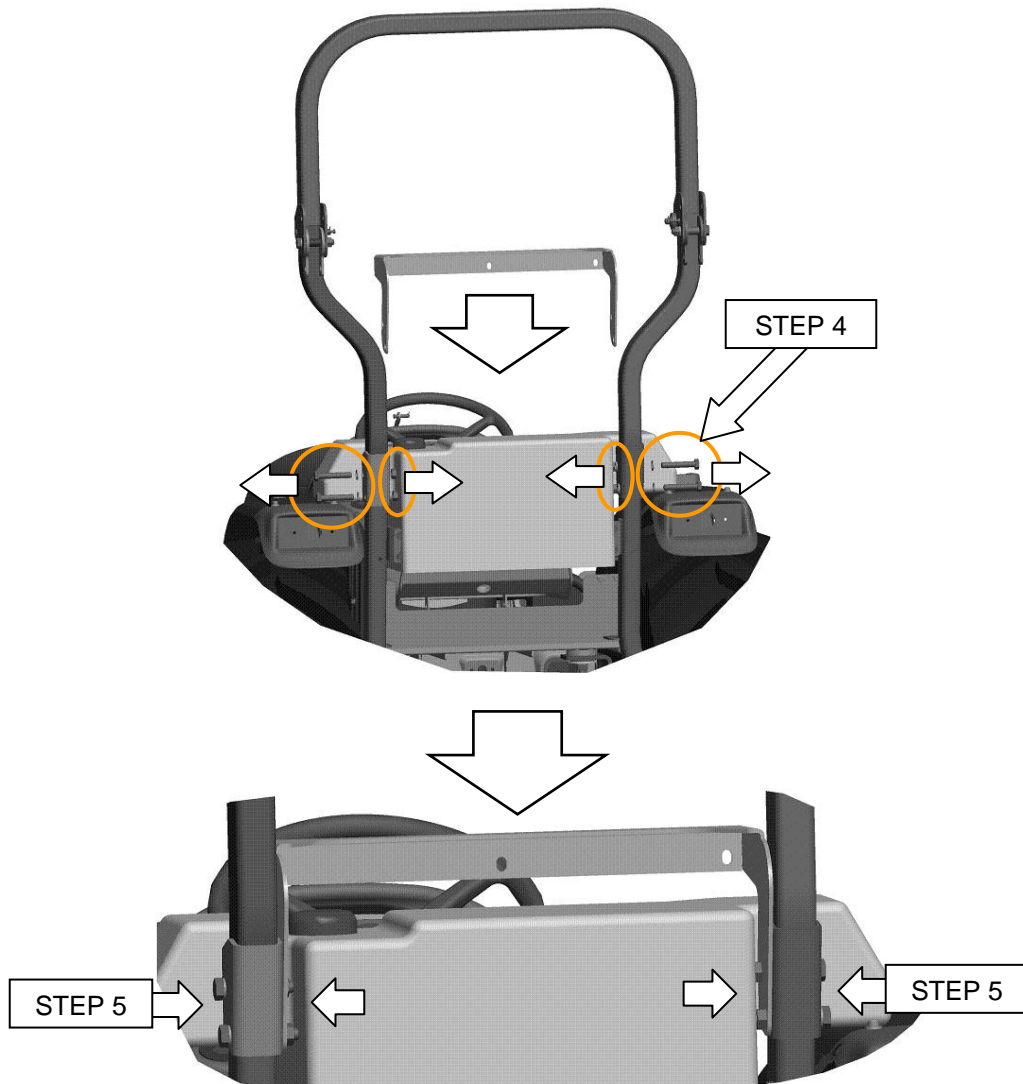

Figure 2
4. Loosen middle ROPS connection bolts and insert "R" style rear mount bracket, as shown in Figure 2.
5. Re-install ROPS connection bolts and **torque to manufacturer's specifications**, as shown in Figure 2.